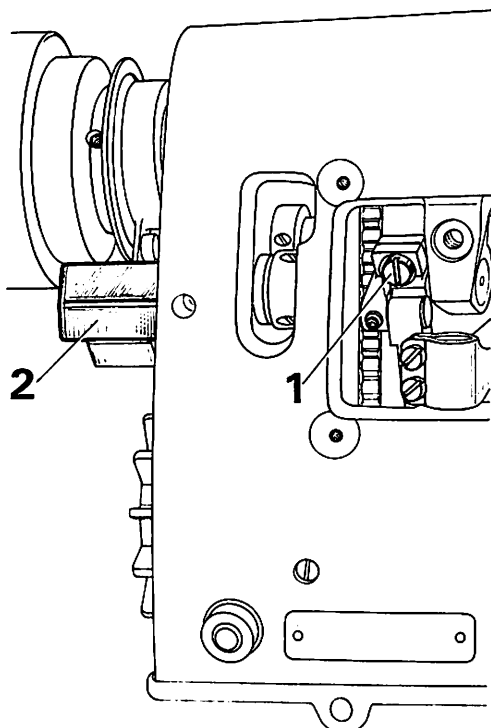

Fig. 6.0.1.
- 6.4. Loosen clamp screw 1 of needle feed regulating crank 2 (Fig. 6.0.1.).